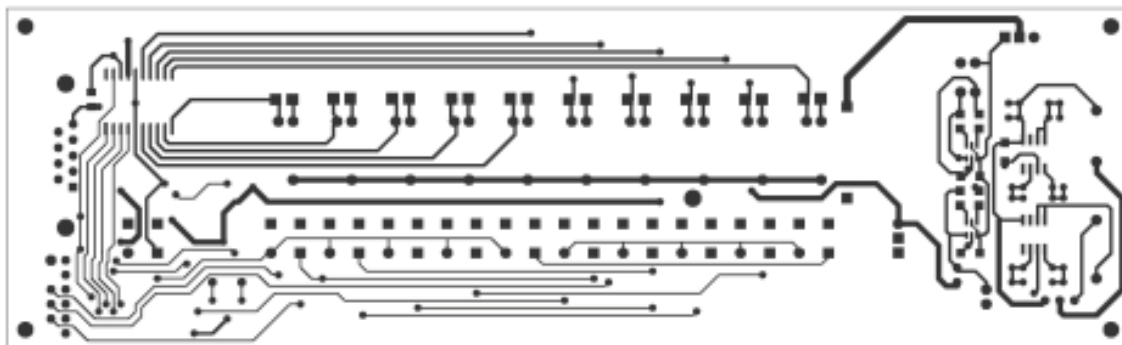

Figure 7. W-510DB1 Board Layout – Top Side
- Figure 7. W-510DB1 Board Layout – Top Side